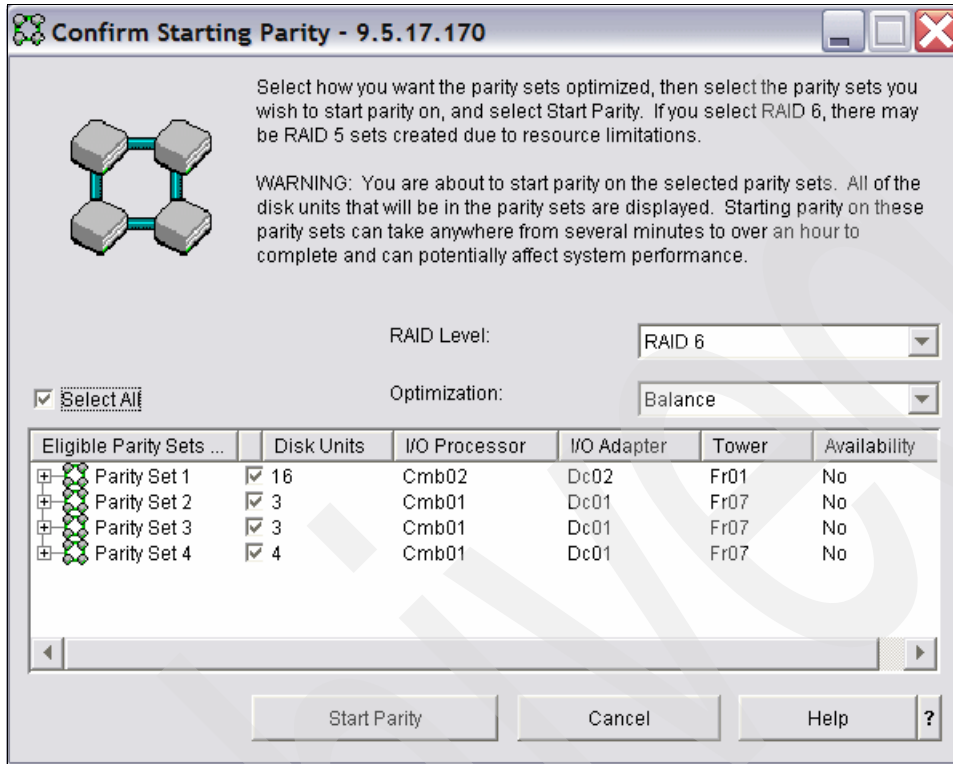

Figure 3-9 The Confirm Starting Parity window
- On the page that is displayed (Figure 3-9), confirm that the RAID Level and Optimization settings are correct. Select the boxes for the RAIDsets you want to start, and click **Start Parity**.